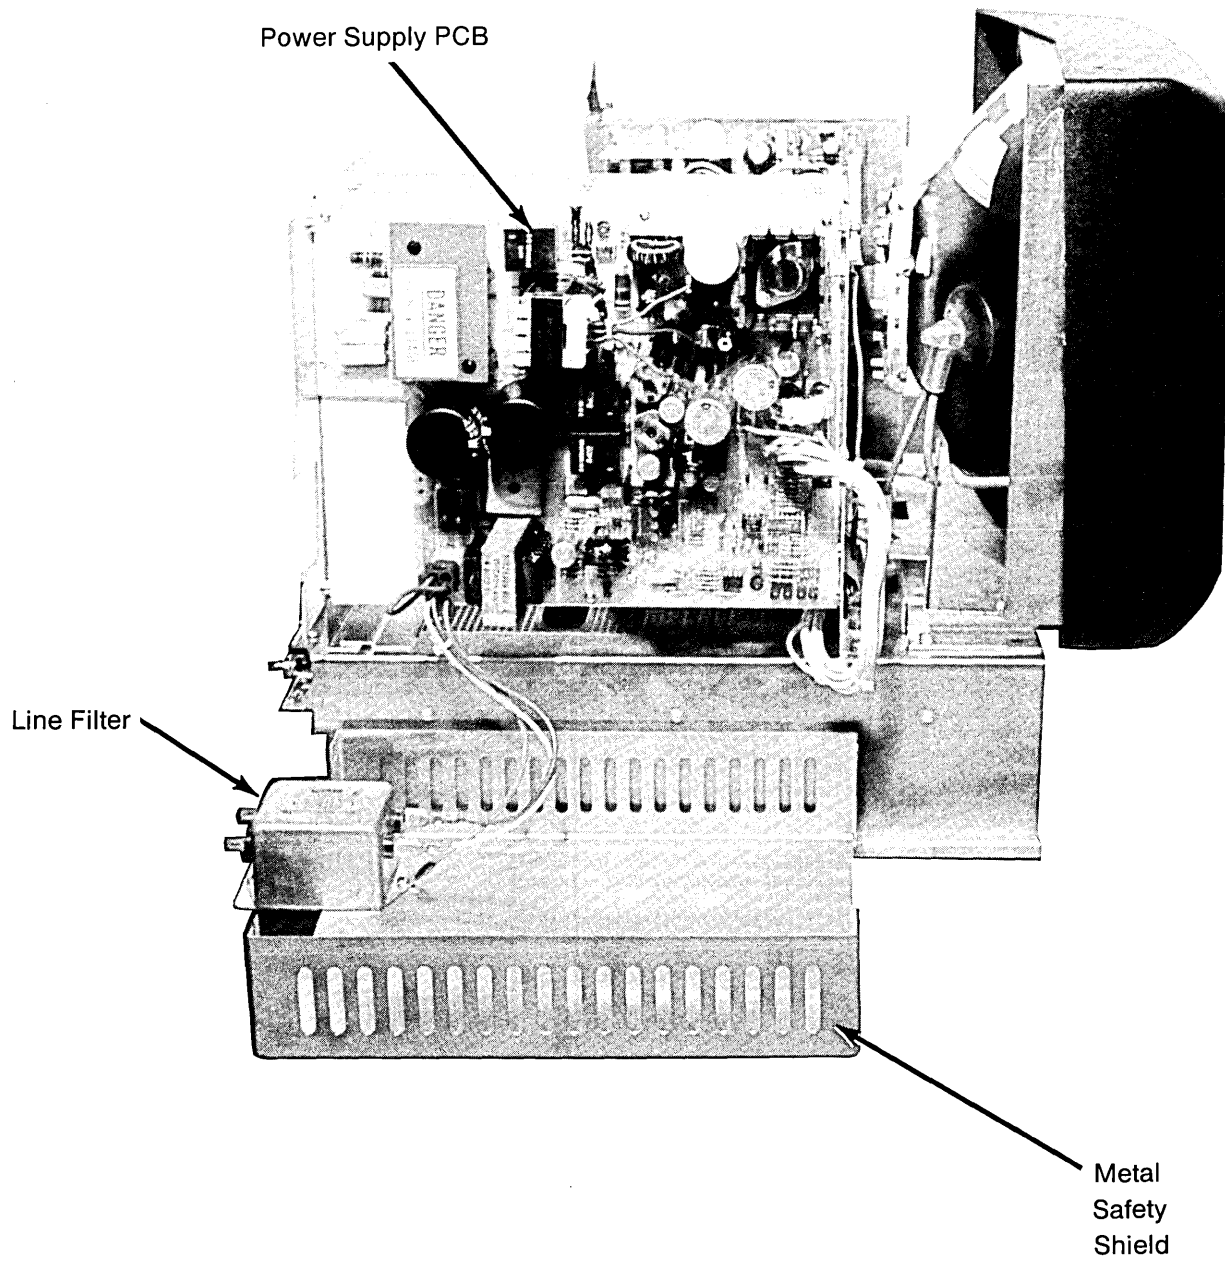

Figure 5-14. Shield Removed from Power Supply PCB
3. See figure 5-14. Remove the screws from the metal safety shield and place the shield on the worksurface.
2. Insert the three machine screws. See again figure 5-14.